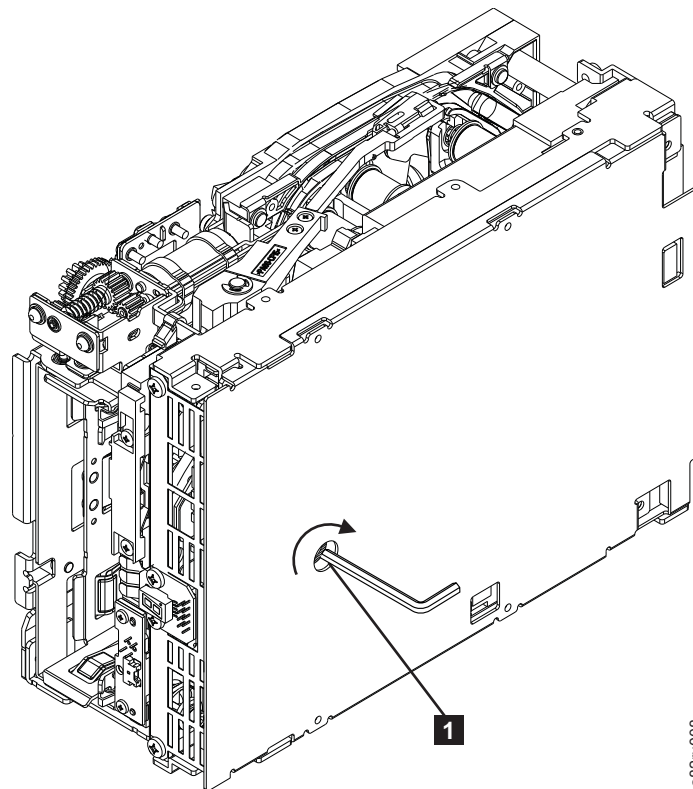

Figure 206. The hex wrench rewinds tape into cartridge
6. From the bottom of the drive, locate the access hole (**1** in Figure 206) in the bottom cover. Insert a 2.5 mm offset hex wrench through the bottom cover access hole and into the reel motor axle. Begin spooling tape back into the cartridge by turning the hex wrench clockwise.